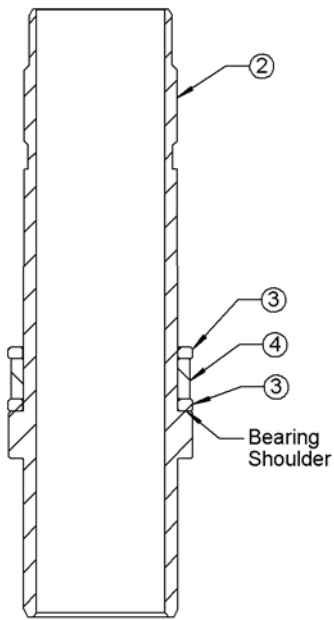

FIGURE 1
Step 1: Place the Mandrel (item 2), thread end up, on the bench. Slide two Washers (item 3) over threads to bearing shoulder. Liberally grease between washer and press twelve (12) bearings (item 4) into grease, flat side against Mandrel. See Figure 1